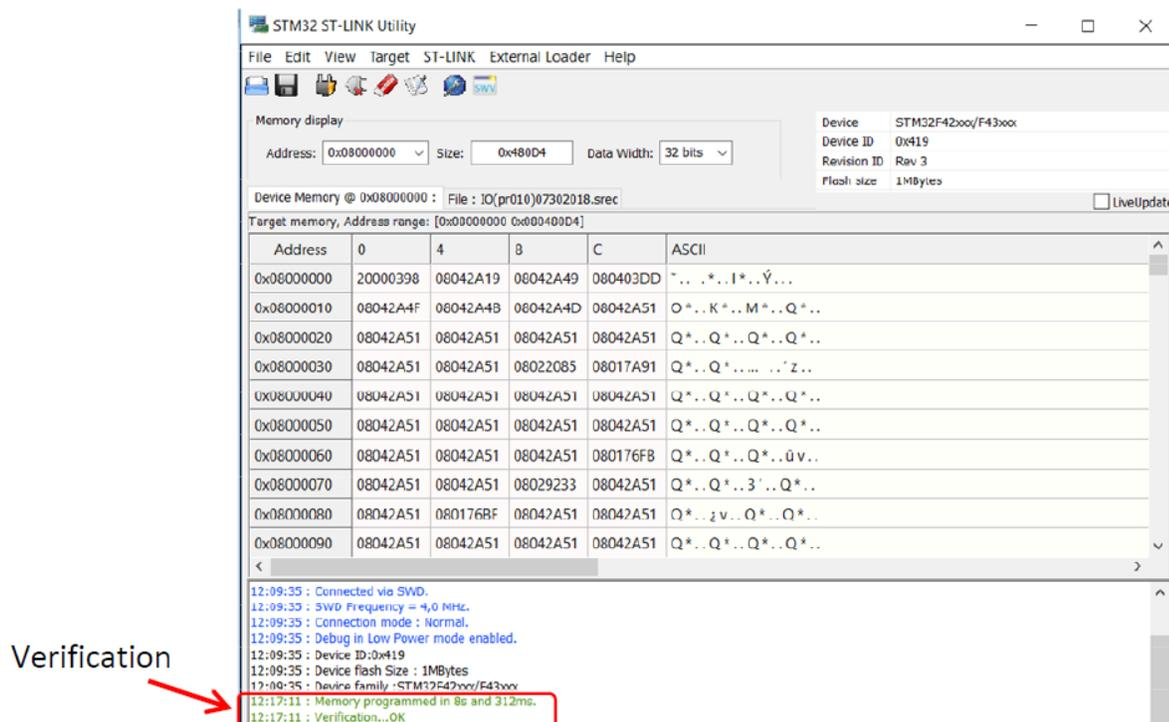

Figure 5: Complete Flash of Terminal Module
10. Once the Module is programmed, the main page of the ST-Link will show Verification (Figure 5).